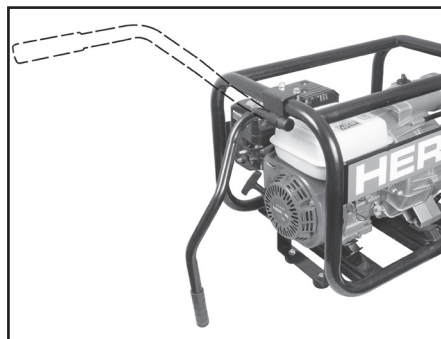

Fig. 5
2. Assembling the undercarriage, stand and pull cord (Fig. 4, Fig. 5)